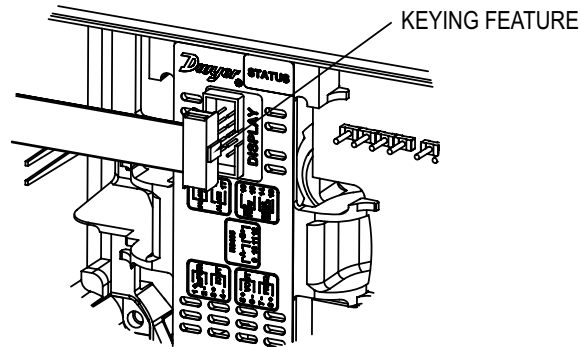

Figure 5
- Step 6:** Insert one connector end of the ribbon cable supplied in the setup kit into the connector labeled "Display" in the middle of the unit. Be sure to orient the keying feature/tab. See Figure 5 below: